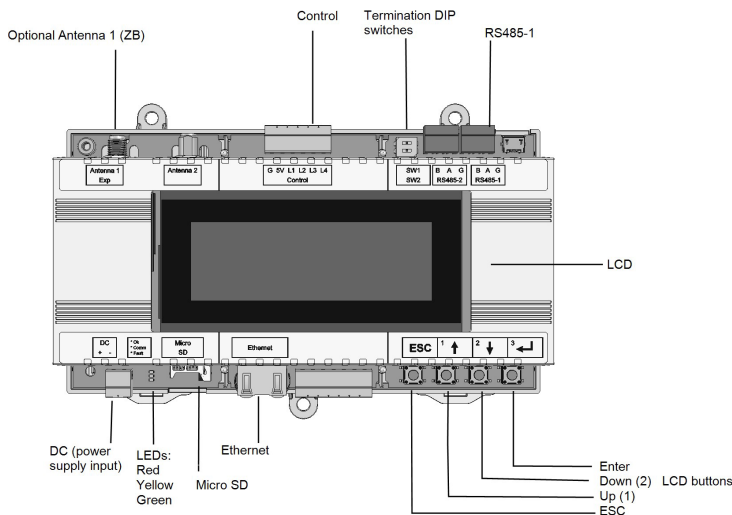

Figure 3: Firefighter gateway interfaces
1. Connect the power supply cable connector to the connector labeled **DC** on the Firefighter Gateway (see *Figure 3*).
2. Connect the power supply to the AC mains. The LEDs are lit momentarily to indicate power connection (see *Figure 3*).